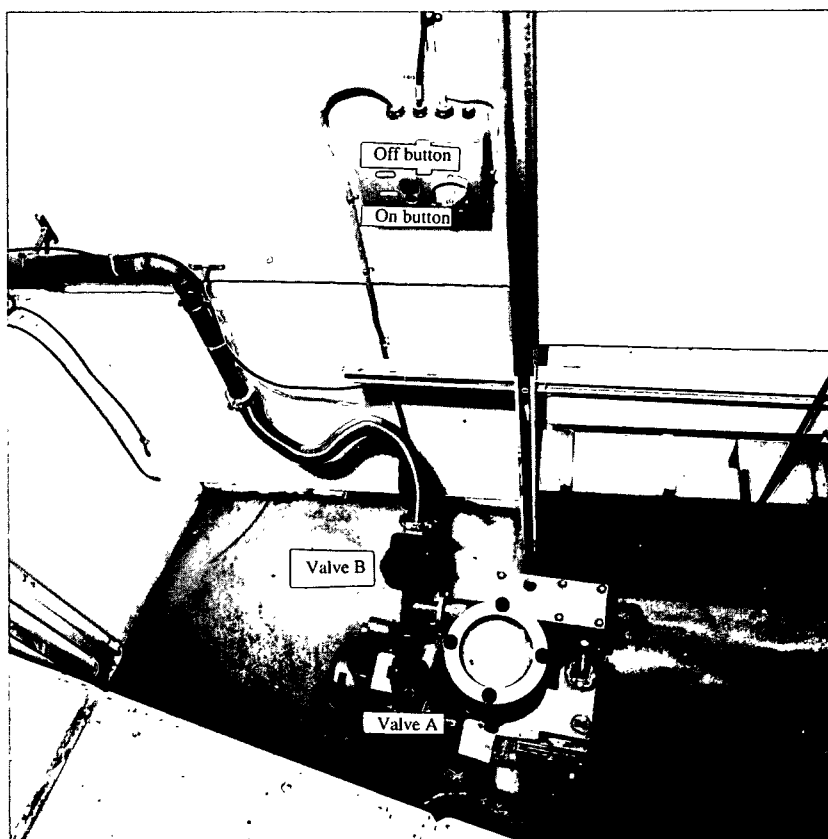

Figure 7 The rotary pump used to evacuate the beamline and sample tank.
The sample tank is evacuated by means of a pump located outside the blockhouse at ground level between the POLARIS and eVS beamlines. The pump is operated by closing the small valve A, (see **Fig. 7**) ensuring the large valve B is open. Press the green button (C). To switch off the pump for the removal of a sample hit the red power off button and open the small valve A. **It is essential to remember to evacuate the sample tank before starting a run.** Otherwise background scattering from air will make analysis of your data impossible. It takes two or three minutes to evacuate the line.
If the sample is to be removed directly from the sample tank (i.e. for room temperature measurements), air must be let into the sample tank before the 'candlestick' holder can be removed. to do this open valve A on the pump (Figure 7) and press the red stop button. If you are removing a sample from a cryostat, consult appendix 1 for instructions on how to do this.